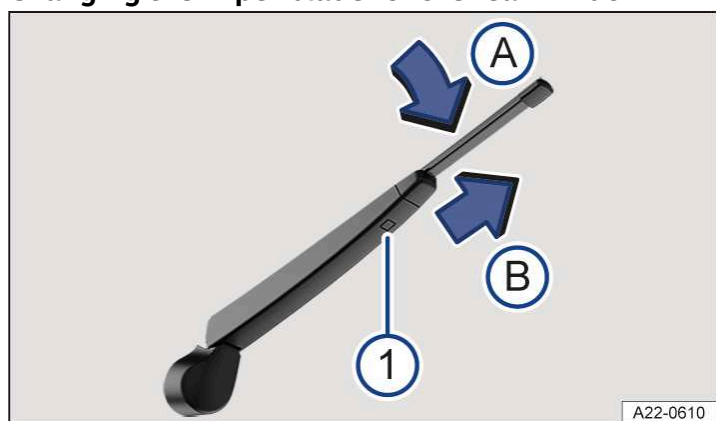

Fig. 2 Changing the wiper blade for the rear window.
① Release button for the wiper blade.
3. Press and hold the release button → Fig. 2 ①.
4. Tilt the wiper blade in the direction of the wiper arm → Fig. 2 ① (A) and pull it off in the direction of the arrow ① (B) at the same time. You may need to use some force to do this.
5. Insert a new wiper blade with the same length and design onto the wiper arm against the direction of the arrow. Push it on until it engages → Fig. 2 ① (B). The wiper blade must be in folded-down position to do this → Fig. 2 ① (A).